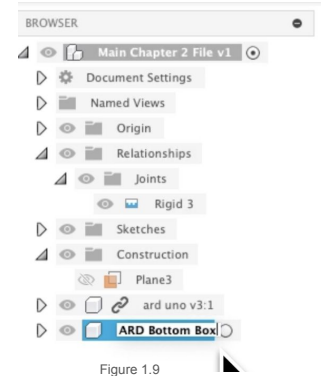

Figure 1.9
- In this example, the base was labeled **ARD Bottom Box** (see Figure 1.9). Proper naming ensures your assemblies stay clean and manageable as the number of parts increases.